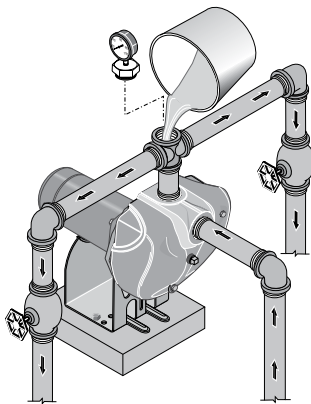

Figure 9: Remove Priming Plug and Fill Pump Before Starting
1. Remove priming plug (Figure 9).